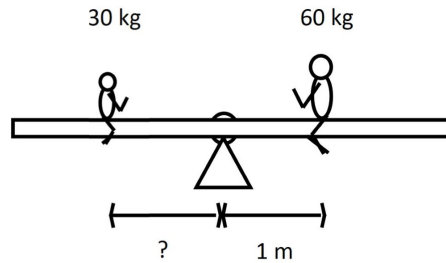

Figure 1: Diagram for warm up problem 1.
1. A 60 kilogram parent sits on a seesaw, 1 meter to the right of the pivot (as pictured in figure 1). How far to the left should a 30 kilogram child sit in order to balance the seesaw?